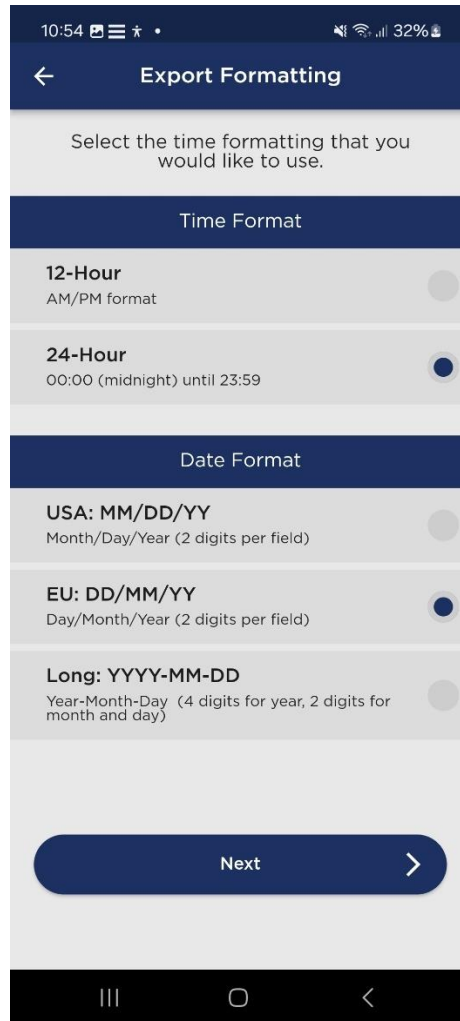

Figure 8-17: The *Export Formatting* page allows you to select your preferred date and time formats for the exported data.
- In this step, you can select your preferred time and date formats (see Figure 8-17). These settings apply to the *time of scan*, *date of scan*, *export time* and *export date* column values in the export. You can choose between different time formats (12-Hour AM/PM or 24-Hour) and date formats (USA: MM/DD/YY, EU: DD/MM/YY, or Long: YYYY-MM-DD).